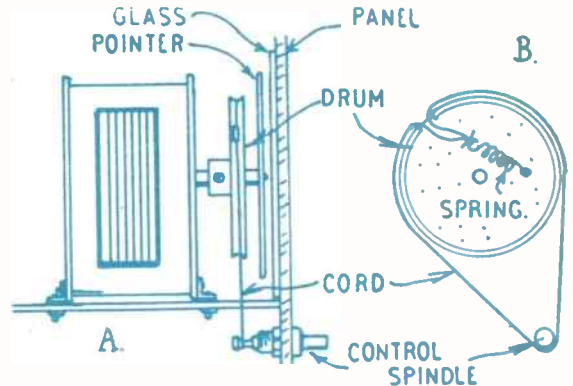

Fig. 2—A cord drive
The end towers and stairs are made up as shown in Fig. 2. The stairs (pieces 8) are glued between pieces 4 and 5 and then pieces 6 and 7 are glued in place. The towers, of course, are made up as a matching pair — one right and one left. When assembled these are glued to the bridge section.
The next stage is to perform the dog paddle instead of using the float. The leg thrash is exactly the same and the arms are alternately pushed forward to full stretch, pulled down through the water under the centre line of the body, bent up under the chin and thrust forward again, always below the surface (Fig. 2) This will enable you to keep your head
A cord drive of the type shown in Fig. 2 is also much employed in modern re-
With most receivers, the tuning scale and pointer appear in a cut out in the panel or cabinet, glass being used to keep out the dust and improve appearance. The aperture in the panel may be round, square, or rectangular, to suit the type of dial, and receiver. A piece of glass large enough to cover the aperture completely is fitted behind the panel, as in Fig. 2. Four small screws, with cardboard washers under their heads, will hold it in place.
receivers. A metal framed condenser, bolted to the chassis, is used for tuning. The drum fits upon the condenser spindle, a cord passing round this, and round the control spindle, to which the tuning knob is fitted. (See (B) in Fig. 2.)
A cord drive like that in Fig. 2 is often used with a straight tuning scale, which may be arranged vertically or horizontally. The cord is longer and passes round small pulleys, as shown in Fig. 4. The pointer may be a stout, straight wire, soldered to a small piece of metal which can be clipped upon the cord.